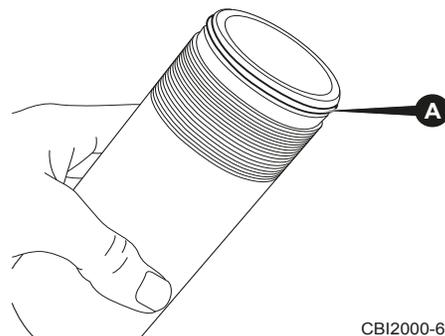

Figure 6.59 - Inspect Filter Housing
8. Inspect Bowl Seal - Inspect the bowl seal (Figure 6.59 / A) for cracks, nicks, compression set, or signs of damage. Replace if necessary.